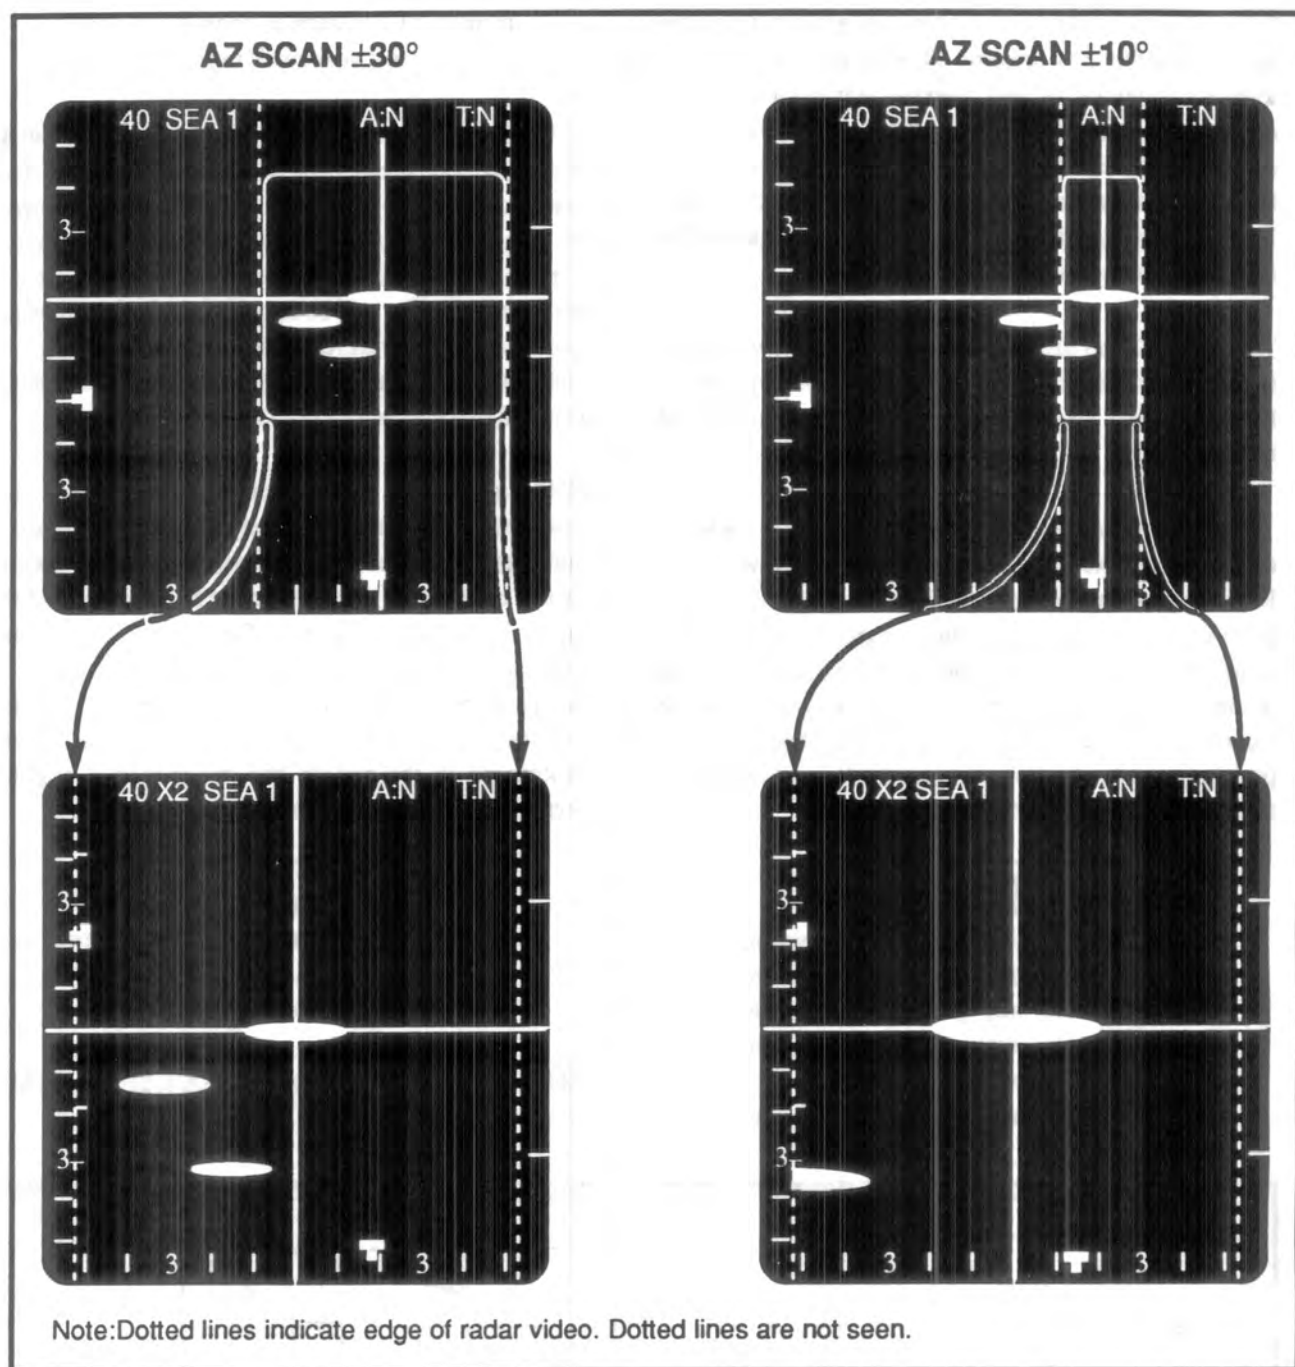

Figure 7-32 Expanded x2 SEA 1 Submode
7.239 The expanded modes provide improved resolution hence detectability by using a narrow radar pulse which reduces the background clutter competing with the target. x2 and a x4 expand capability is provided in SEA 1, and a x4 in SEA 2. The x2 mode covers half the selected range scale with half the pulse width, while the x4 expand mode covers $\frac{1}{4}$ of the range scale with $\frac{1}{4}$ of the pulse. Indication of the selected Expand mode is given following the range scale in the upper left corner of the radar display (E2 for x2 and E4 for x4). Figure 7-32 shows expanded mode displays.